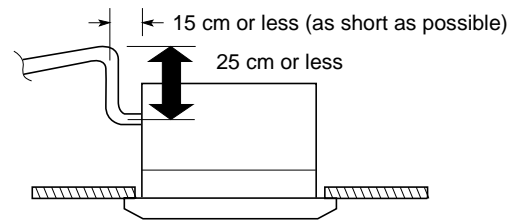

Fig. 3-14
- If it is necessary to increase the height of the drain pipe, the section directly after the connection port can be raised a maximum of 25 cm. Do not raise it any higher than 25 cm, as this could result in water leaks. (Fig. 3-14)